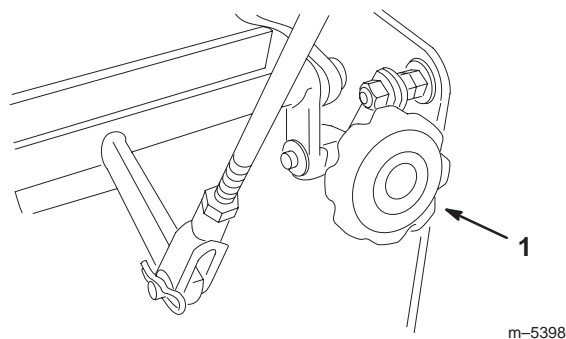

Figure 54
4. If the unit tracks to one side or the other, turn the quick track knob. Turn the knob right to steer right and turn the knob left to steer left (Fig. 54).